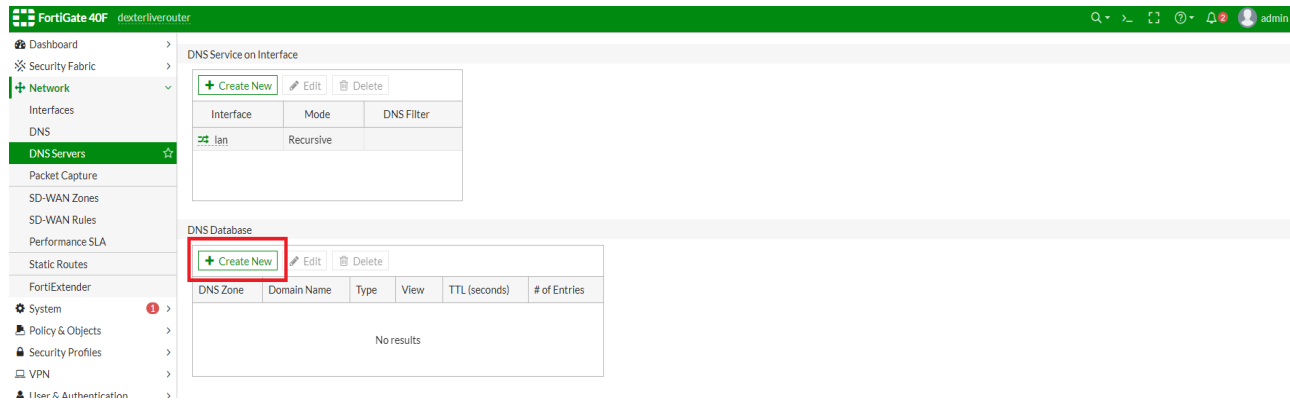

Figure 14
7. Configure the DNS Database by selecting "Create New" under "DNS Database". (Figure 14)